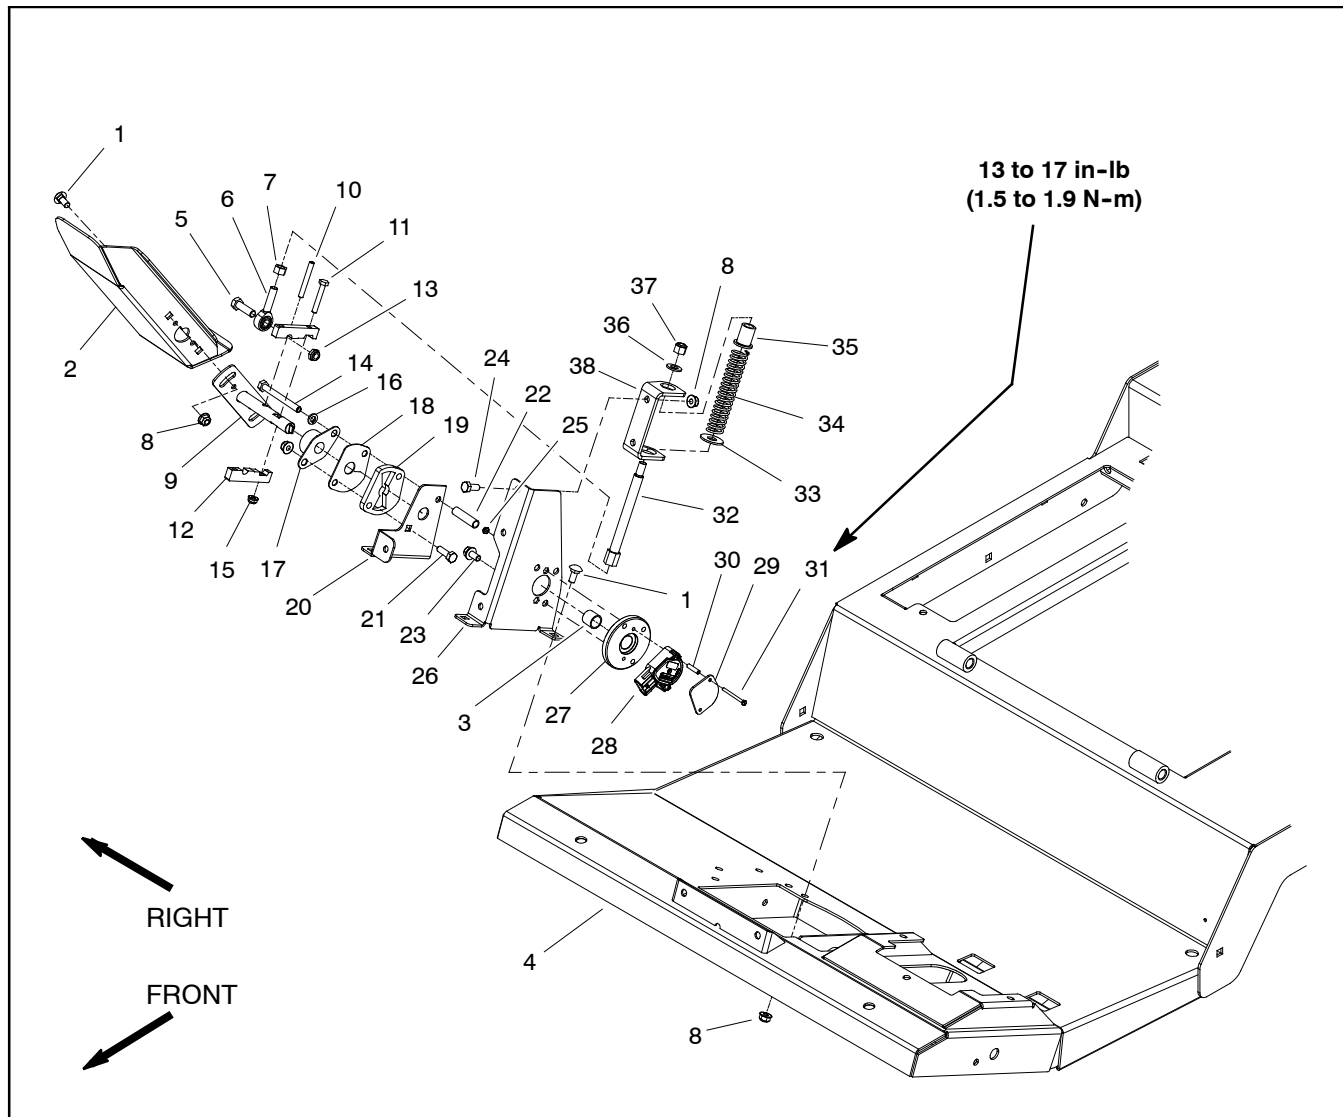

Figure 17
Disassembly (Fig. 17)
3. Disconnect machine wire harness connector from position sensor (item 28) on traction pedal.
5. Disassemble traction pedal as needed using Figures 17 and 18 as guides. When removing roll pin (item 10 in Fig. 17), make sure to support shaft to prevent component damage.
Assembly (Fig. 17)
1. Assemble traction pedal using Figures 17 and 18 as guides noting the following items:
- A. Apply grease to both the OD and ID of the spring retainer (item 35 in Fig. 17) before installation. Take care to not get grease on threads of spring shaft (item 32 in Fig. 17) or lock nut (item 37 in Fig. 17).
- B. If lock nut (item 37 in Fig. 17) was removed, tighten nut until washer (item 36 in Fig. 17) does not rotate.
- C. If traction pedal shaft (item 9 in Fig. 17) was removed, apply grease to the shaft areas that will be inside the bearings after assembly.
- D. Use a press to install roll pin (item 10 in Fig. 17). DO NOT damage flange mount bearing (item 17 in Fig. 17) or cover plate (item 18 in Fig. 17) when installing roll pin. Also, take care to not distort roll pin during assembly.
- E. Make sure that roll pin (item 10 in Fig. 17) is fully inside the butterfly groove of the shim plate (item 20 in Fig. 17). The roll pin should not contact the shim plate throughout the operating range.
F. To install the traction pedal position sensor (item 28 in Fig. 17), press and hold the traction pedal in the reverse direction slightly. Align the slot on the end of the pedal shaft with the slot in the position sensor. Slide position sensor onto screws and release pedal. Hold position sensor in position while installing capture plate (item 29 in Fig. 17) and lock nuts (item 25 in Fig. 17).
G. Torque screws (item 31 in Fig. 17) from **13 to 17 in-lb (1.5 to 1.9 N-m)**.
H. Leave the hex nut (item 7 in Fig. 17) loose so that the position sensor can be calibrated.
3. Plug machine wire harness connector into traction pedal position sensor (item 28 in Fig. 17).
5. Make sure that hex nut (item 7 in Fig. 17) is tightened after position sensor adjustment.